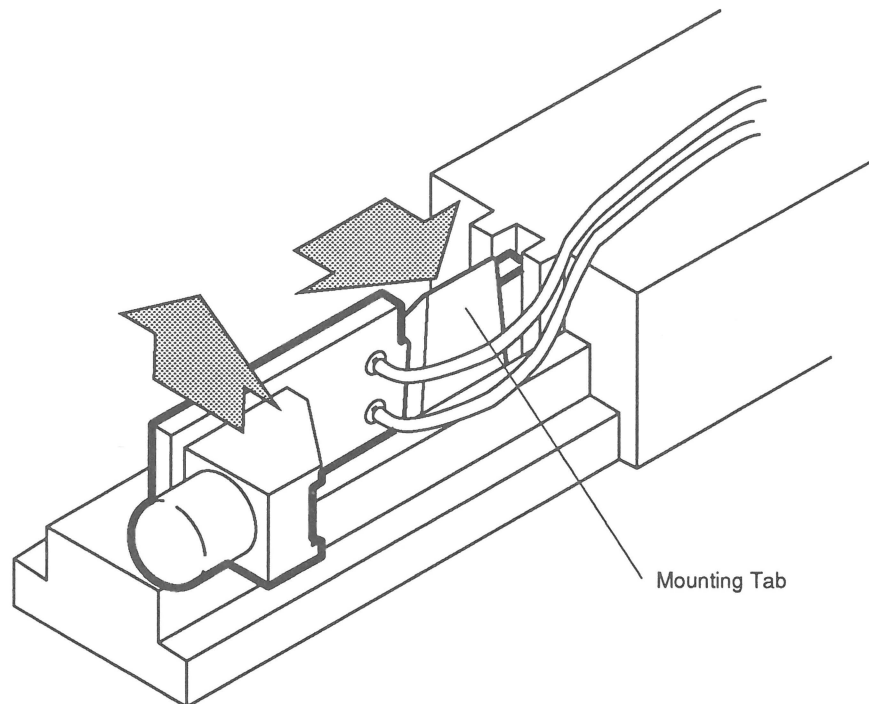

Figure 2-9 LED Assembly Removal
3. Remove the LED assembly by applying pressure to the mounting tab and pulling up on the LED assembly (**Figure 2-9**).